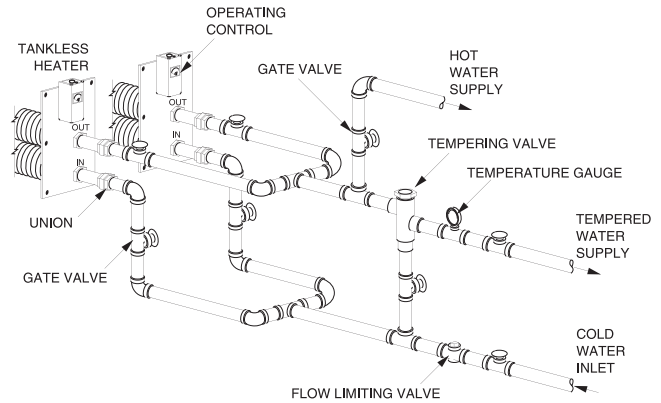

Figure 3.10: Typical Piping for Multiple Tankless Heater Coils
- Install the operating control in the center tapping on the heater mounting plate. Figure 3.10 shows an acceptable piping arrangement for multiple heater coils.